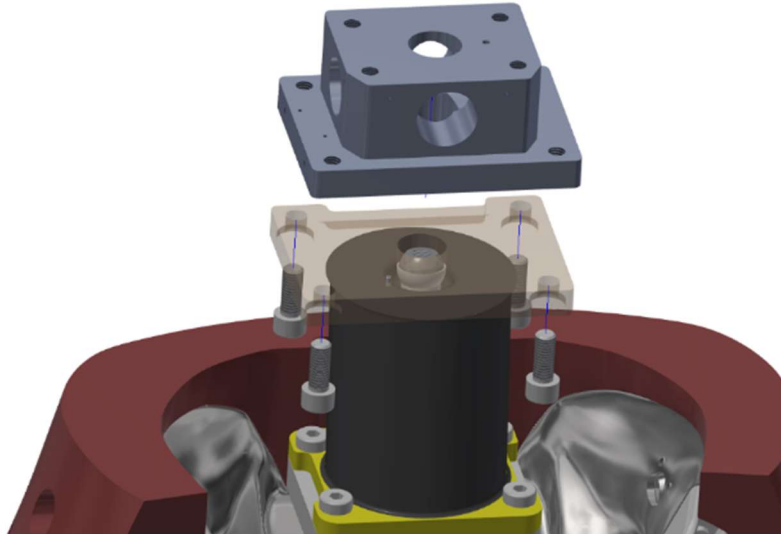

Figure 6-34. Install thoracic spine load cell (SA572-S107) to lumbar assembly (474-3223-A)
- 6.3.4 Install the Thoracic Spine Load Cell (SA572-S107) onto the Lumbar Assembly (474-3223-A) using four M8 X 1.25 X 20 SHCS on the bottom of the top plate of the Lumbar Assembly (Figure 6-34).